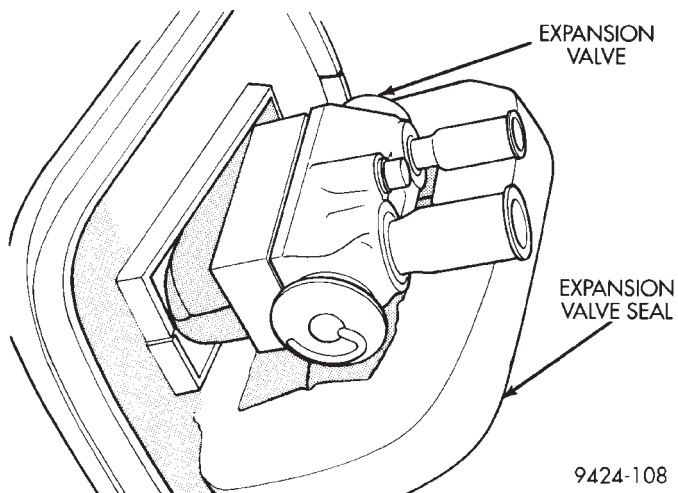

Fig. 70 Evaporator Seal
- (16) Remove evaporator seal from housing (Fig. 70).